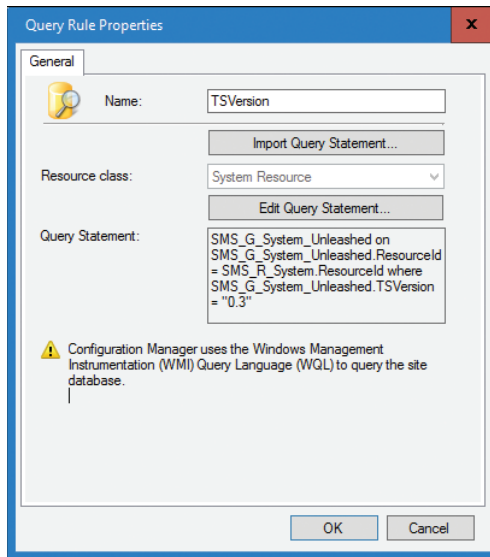

FIGURE E.9 Query Rule Properties dialog.
7. Click **OK** in the Query Statement Properties dialog to return to the Query Rule Properties dialog, shown in Figure E.9.